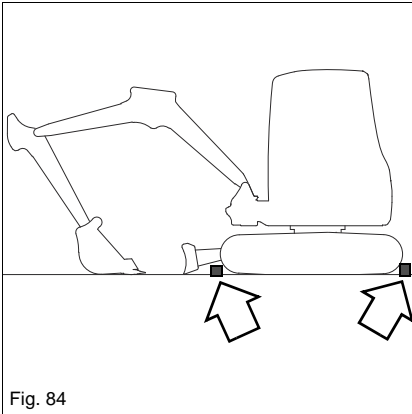

Fig. 84
9. Secure the tracks accordingly (chocks, blocks, for example) as shown in Fig. 84.